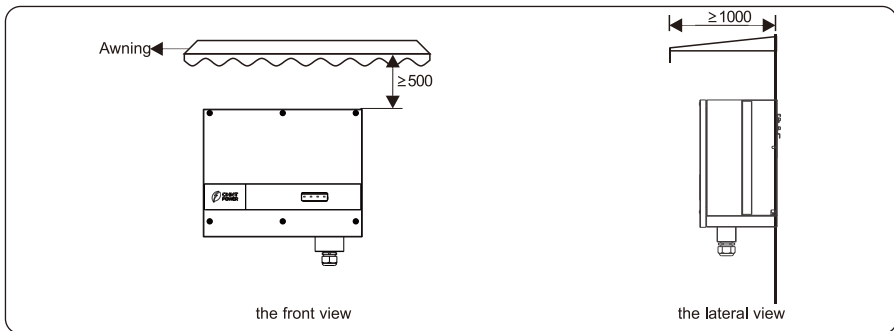

Figure 4.2 Installation environment with awning (unit: mm)
- To ensure long service life, the inverter must not be exposed to direct solar irradiation, rain, or snow. It is recommended that the inverter be mounted in a sheltered place. If no shelter is available, build an awning, as shown in Figure 4.2.